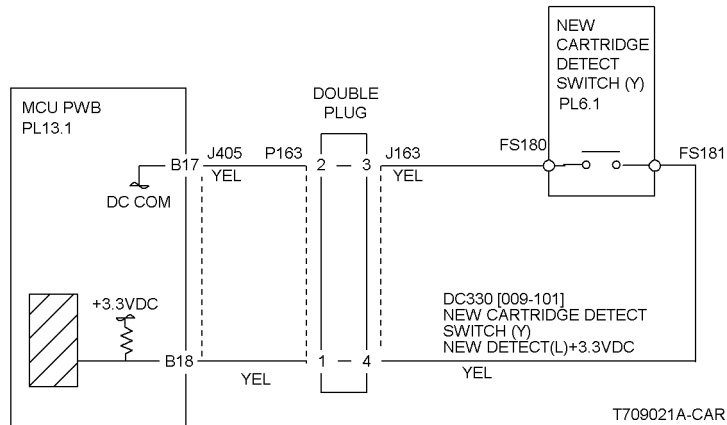

Figure 1 New Cartridge Detect Switch (Y)
Check the wire between the connector J405-B18 and FS181 on the New Cartridge Detect Switch (Y) for a short circuit to the frame (Figure 1).